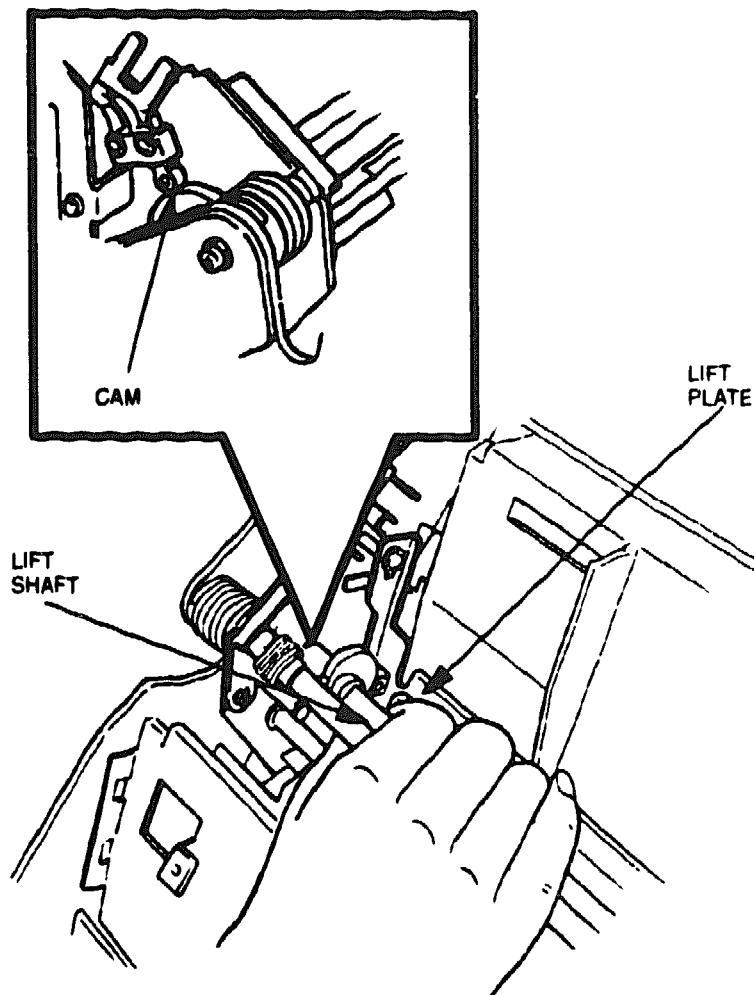

Figure 6-23 Turning the Lift Shaft
5. Turn the lift shaft so that the lift plate releases from the cam and is set to the fully raised position (see Figure 6-23).